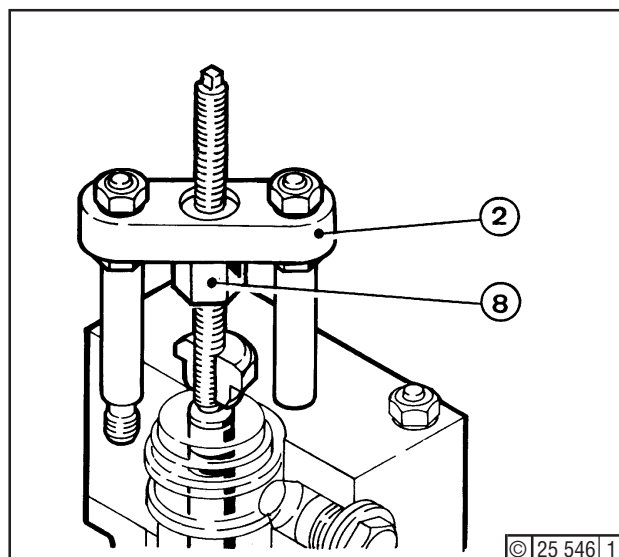

Fig. 4
Mount clamping plate (2) and nut (8) as shown in Fig. 4 and carefully insert element into injection pump. Press element onto its seat by turning the nut.